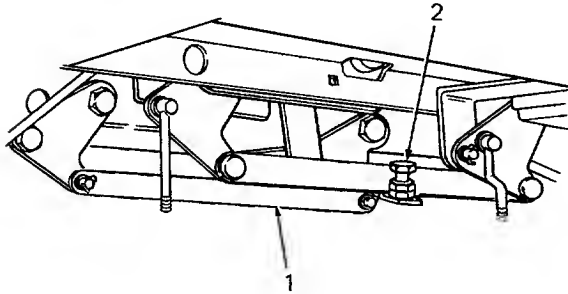

Figure 28
1. Lift stop assembly is located on right side of tractor under the foot rest. Refer to Figure 28 for a detailed view.